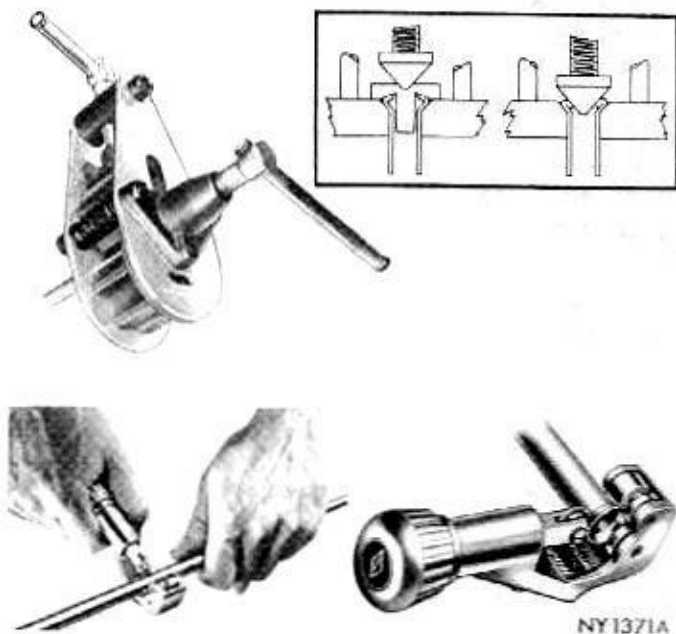

Fig. 3—Cutting and Flaring Steel Tubing
(1) Using Tool C-3478, cut off damaged seat or damaged tubing (Fig. 3).
(2) Ream out any burred or rough edges showing on inside edges of tubing. This will make ends of tubing square and insure better seating of flared end of tubing. **Place compression nut on tubing prior to flaring tubing.**
(3) To flare tubing, open handles of flaring Tool C-3838 and rotate jaws of tool until mating jaws of tubing size are centered in area between vertical posts.
(4) Slowly close handles with tubing inserted in jaws but do not apply heavy pressure to handle as this will lock tubing in place.
(5) Place gauge "Form A" on edge over end of tubing and push tubing through jaws until end of tubing contacts recessed notch of gauge matching size of tubing (Fig. 3).
(6) Squeeze handles of flaring tool and lock tubing in place.
(7) Place proper sized plug of gauge "A" down in end of tubing. Swing compression disc over gauge and center tapered flaring screw in recess of disc.
(8) Lubricate taper of flaring screw and screw in